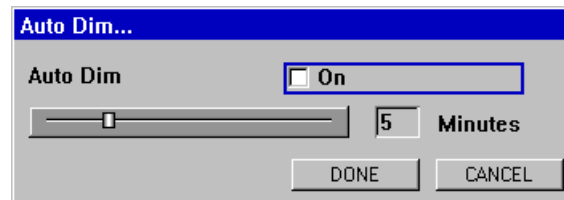

Figure 29: Auto Dim Menu
- 4 Press the rotary knob a second time to open the Auto Dim menu (see Figure 29 below).